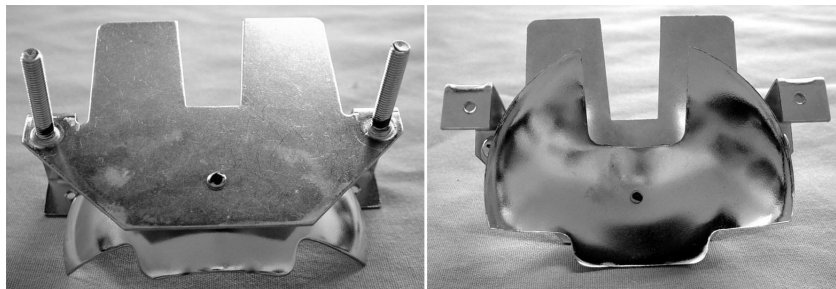

Figure 3
3. Remove the reflector assembly from the rubber-backing pad, then the bulb assembly (pull the entire bulb assembly up to remove). Then cut the 2 mounting studs using a hacksaw or the Rotary Tool, cut them close as possible to the back plate (the marked area) as shown in Figure 3 (left). Turn over the assembly and then drill the rivet as in Figure 3 (right) holding on the reflector using the drill with 1/8" or metric equivalent drill bit. Drill the rivet until the reflector can be easily removed.